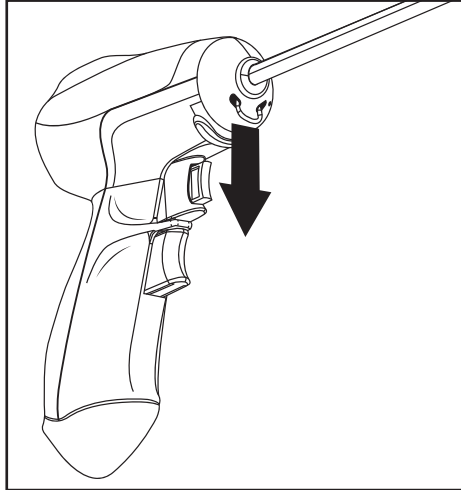

Figure 15. Pulling Down Release Pin.
- Using a hemostat or other device, pull down and remove the release pin located below the nose cone to disengage the shaft assembly from the Delivery Device handle (Figure 15).